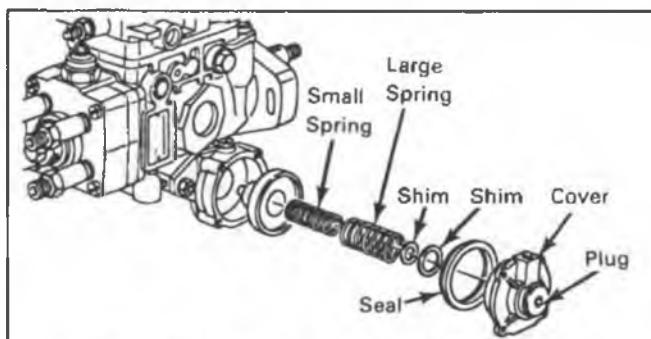

Fig. 4-34 Removing CSD Internal Components
- Remove the small spring (Fig. 4-34).